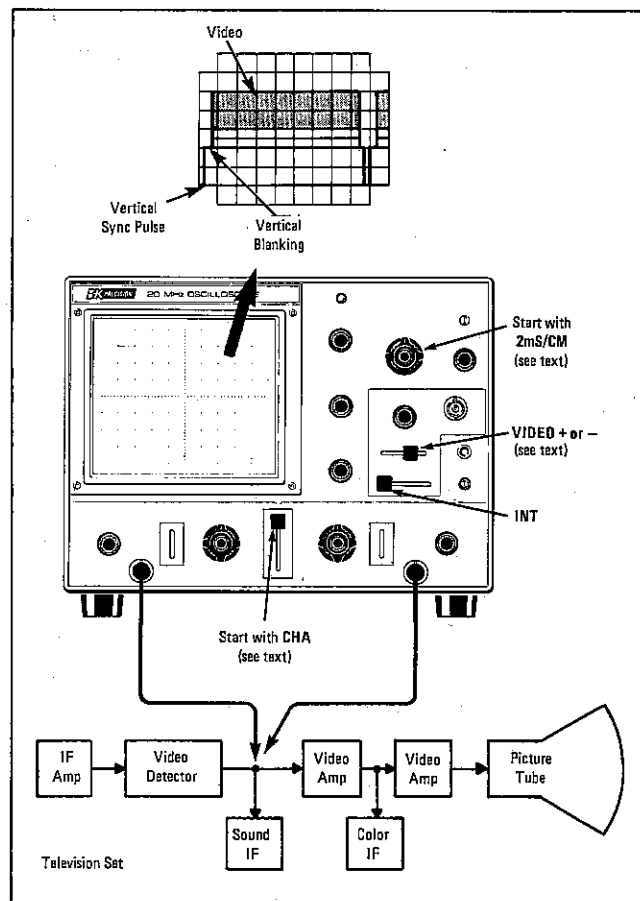

Fig. 20. Initial set-up for viewing field 1 and 2 VITS and VIR information.
With dual-trace oscilloscope operation, the signal information on each vertical blanking interval can be viewed separately without trace overlapping, although the information alternates with each field. Fig. 20 indicates the oscilloscope control setting for viewing the alternate vertical blanking intervals.
2. The control settings of Fig. 20 are those required to obtain a 2-field vertical display on Channel A.